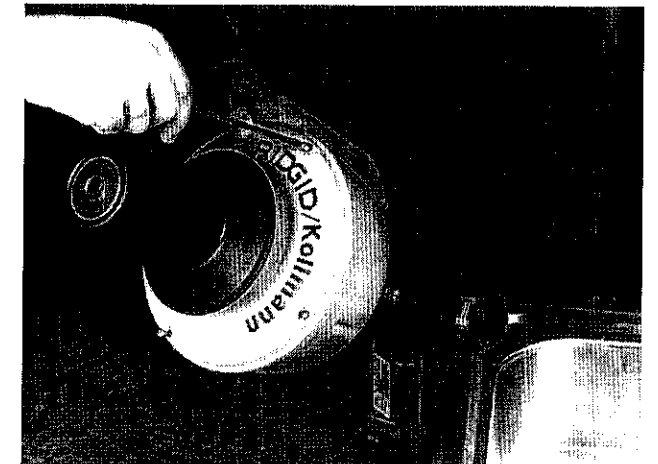

Figure 3. Loosen four fasteners from back half of canister
2. Loosen the four captive fasteners that hold the Canister Front Half to the Back Half. (Fig. 3)